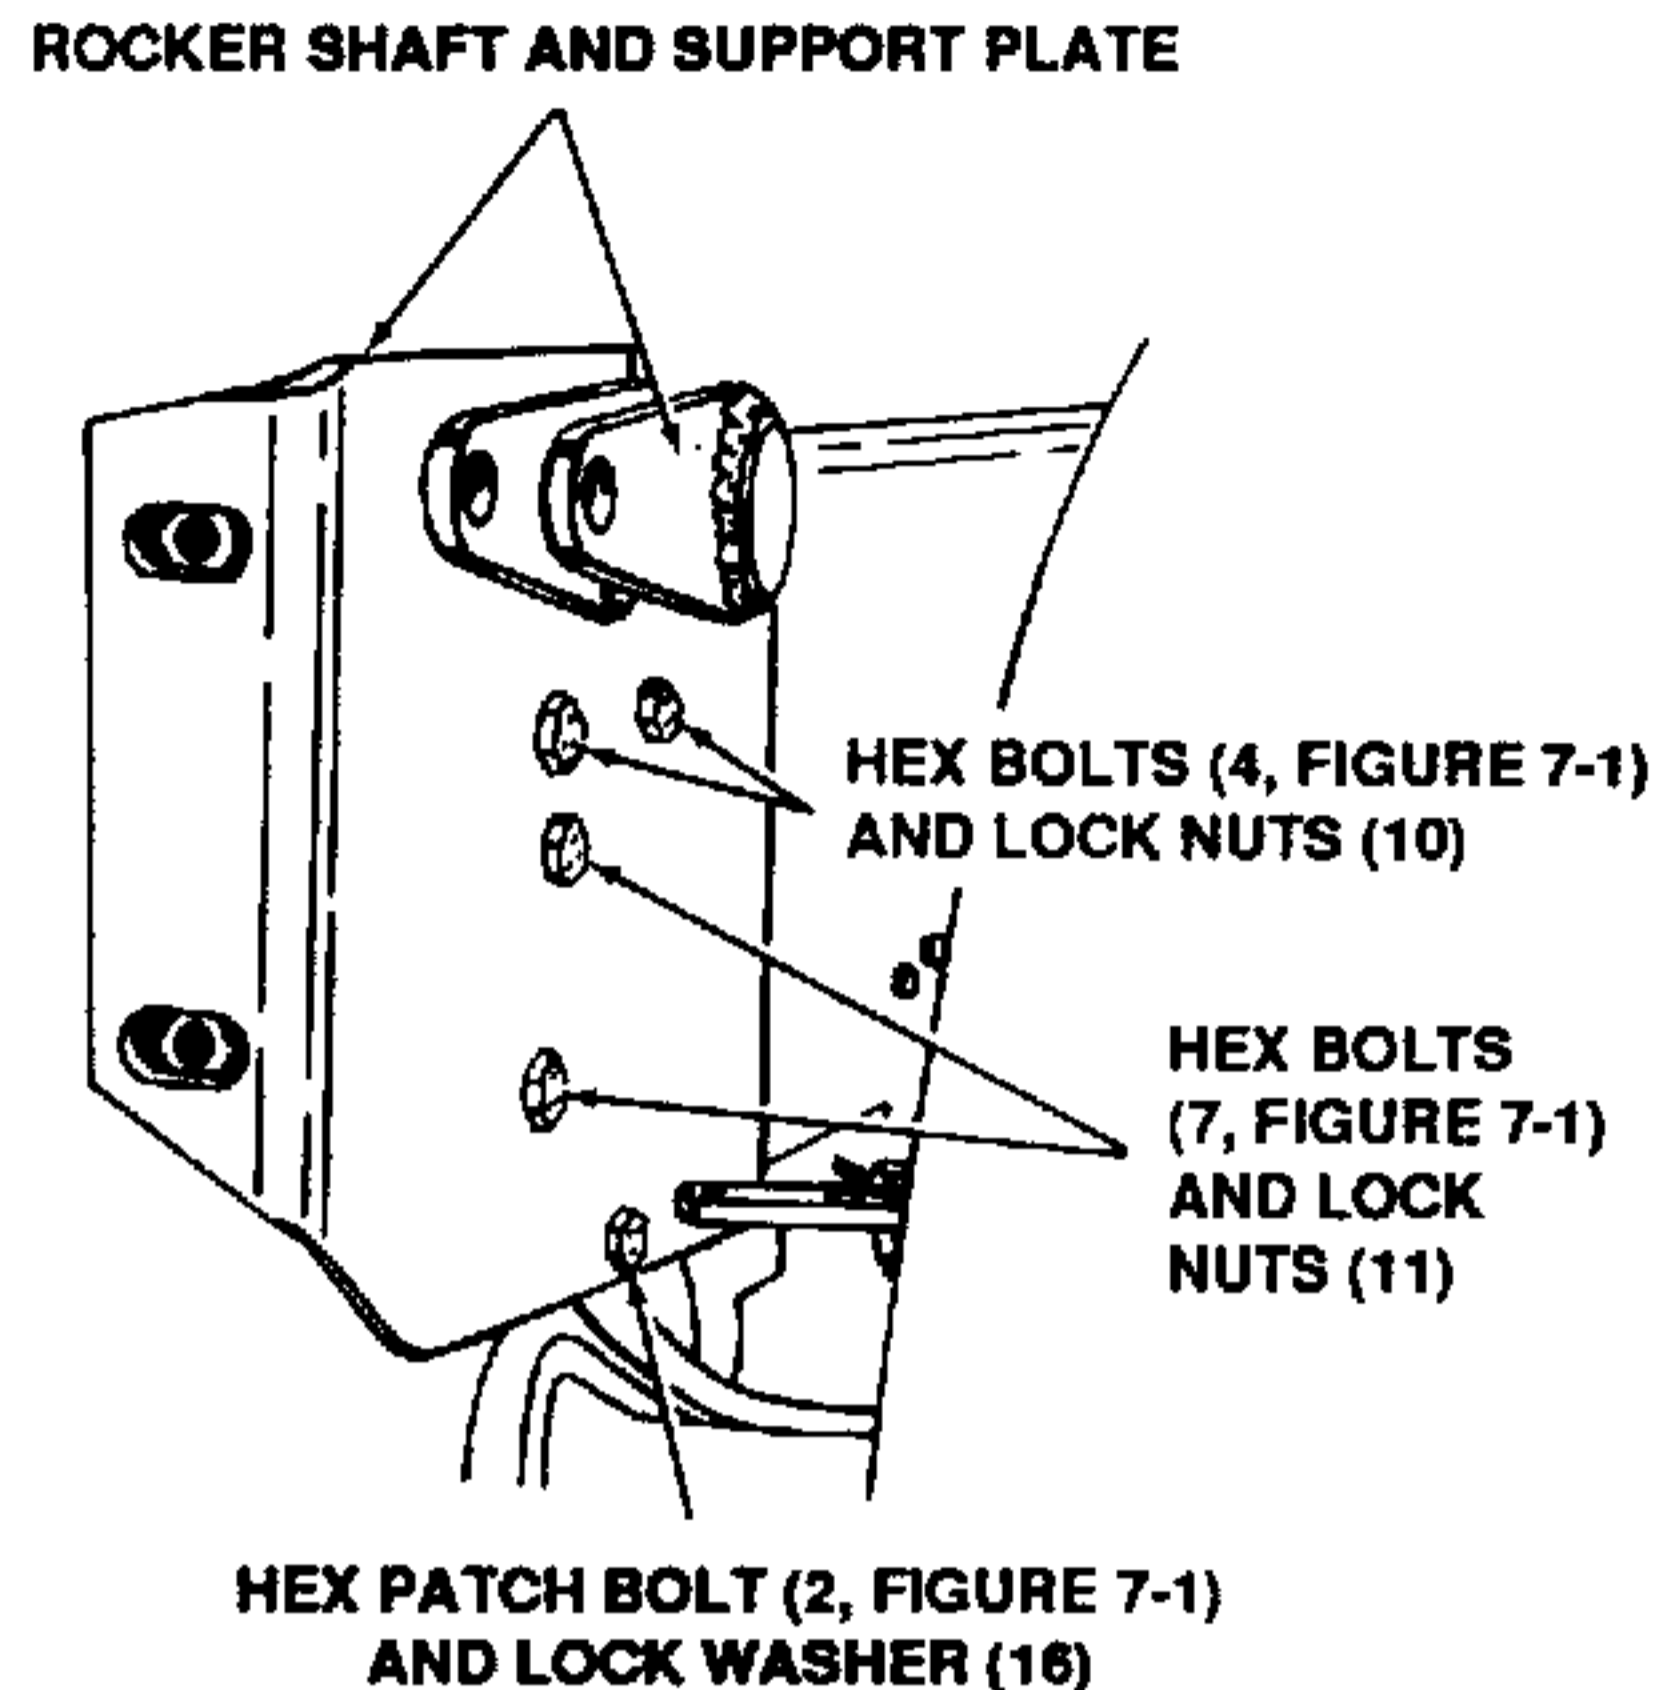

Figure 7-13. Installing Rocker Shaft Assembly.
- b. Position rocker shaft and support plate on frame and secure with 7/16 x 3/4-inch hex bolts (4, Figure 7-1) and lock nuts (10), and 3/8 x 3/4-inch grade 8 bolts (7) and lock nuts (11). Refer to Figure 7-13. Torque 7/16-inch bolts to 53 to 60 ft-lbs. Torque 3/8-inch bolts to 35 to 40 ft-lbs. Refer to Figure 7-13.